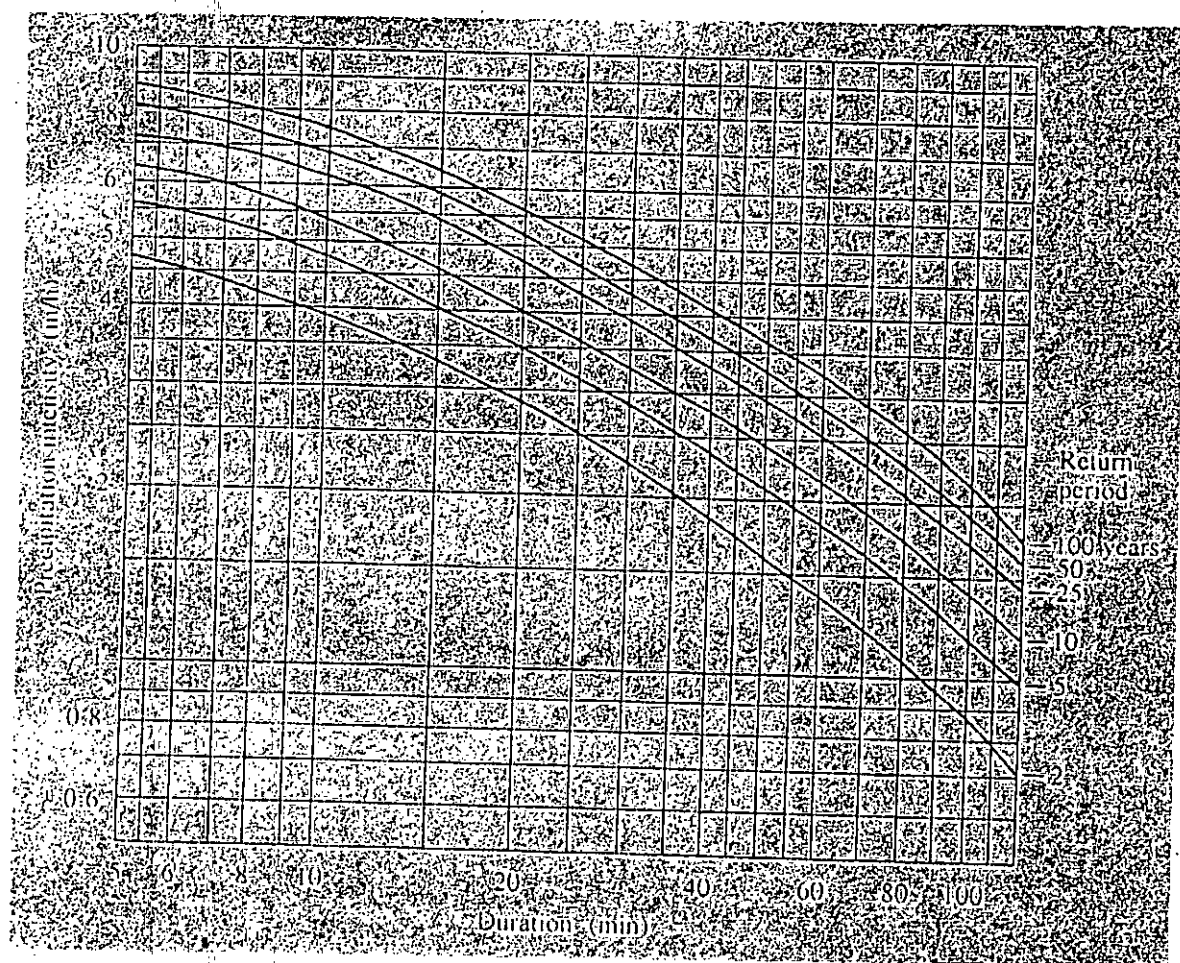

Fig. 1: Intensity-Duration-Frequency (IDF) curves for Q. 4(c)
(c) The design precipitation intensity is 3.8 in/hr for a storm with a T-year return period with slope of 0.005 and maximum length of travel of water of 1000 m. Estimate the design return period (T). Also estimate the design precipitation volume ( $\text{m}^3$ ). Find out the design peak discharge ( $\text{m}^3/\text{s}$ ) using rational method for the catchment. The area of the catchment is  $2 \text{ km}^2$  and runoff coefficient is 0.5. Use the IDF curves (Fig. 1) and Kirpich formula for your estimation.